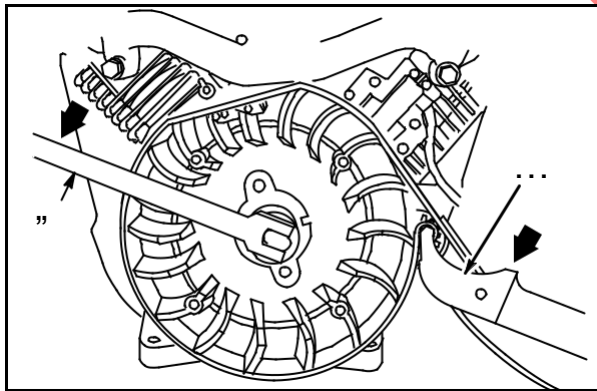

Fig. 14
Prevent the flywheel from turning with Flywheel Strap Wrench, #19433 (5) around outer rim of fly-wheel, Fig. 14.